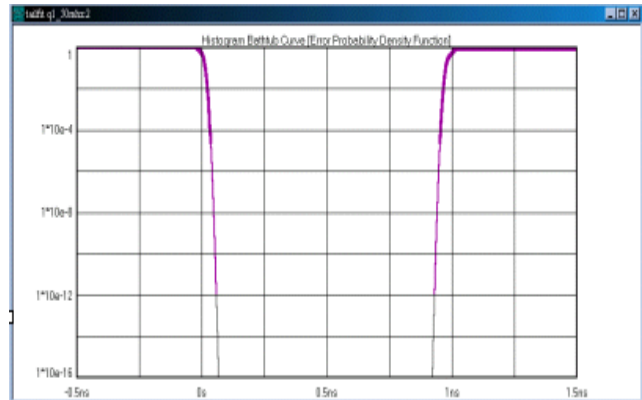
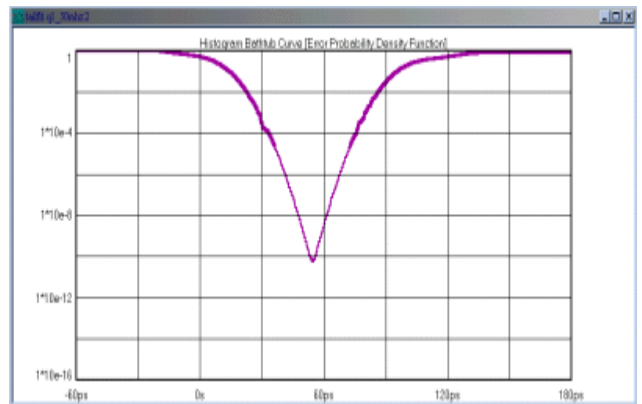

Figure 6. Bathtub Curve Passes @ BER 10-12
Figure 7. Bathtub Curve Fails @ BER 10-12
Figure 6 shows a Bathtub curve, also referred to as an “error probability density plot”. This plot is produced by a convolution of the DJ and RJ probability density functions (PDF’s) acquired from Tail-Fit™. The plot shows a view of the long-term reliability of the signal under test. Total Jitter (TJ) is extracted directly from this plot and is defined as a pk-pk value at a specific bit error rate, or number of clock cycles. The TJ value is read from the curve at the point that the color turns to grey.
A specification failure would be indicated if the lines met above the “bit error rate” set in the dialog menu. In Figure 7, the spec is set to 120ps (for the same clock used in Figure 6). Note that this plot shows TJ=120ps, since the actual TJ=127.333ps the clock failed the 120ps spec. The plot indicates that the device under test is predicted to fail the spec at just over 110e-11 seconds.